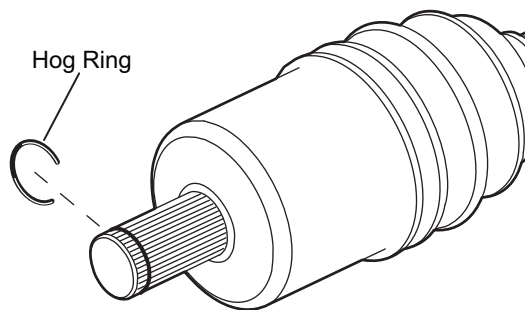

Fig. 11 Hog Ring
6. Remove the front axle from the differential using a pry bar. Make sure that the hog ring is in place on the CV shaft splines (Ref. Fig. 11).